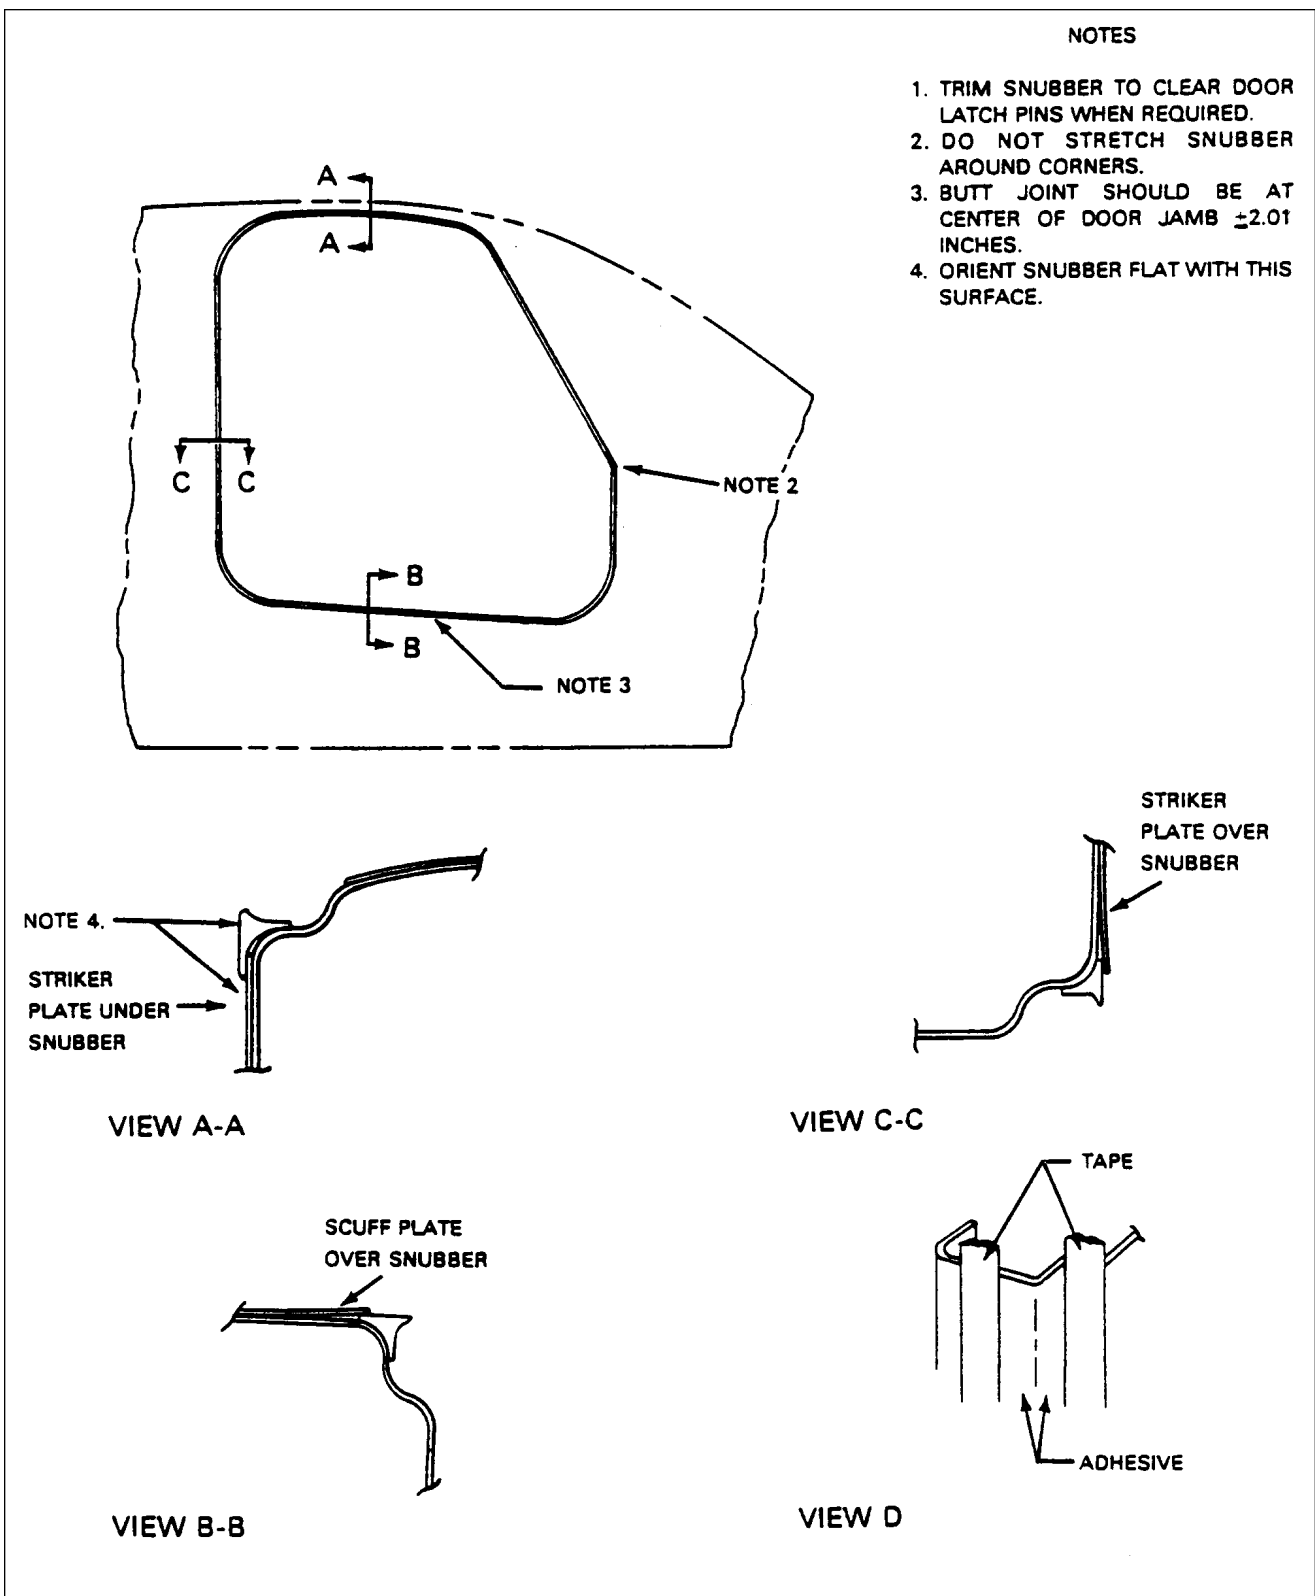

Figure 4-8. Door Seal Snubber Installation
### 4-47a REMOVAL AND INSTALLATION OF DOOR SEAL SNUBBERS. (Refer to Figure 4-8.)
- d. Remove the striker plate. (Refer to Figure 4-8.)
2. To effect a clean installation it is recommended that the door jamb is masked off with tape as shown in Figure 4-8, View D.
3. Apply adhesive to the door jamb with a small brush on the area indicated in Figure 4-8, View D.